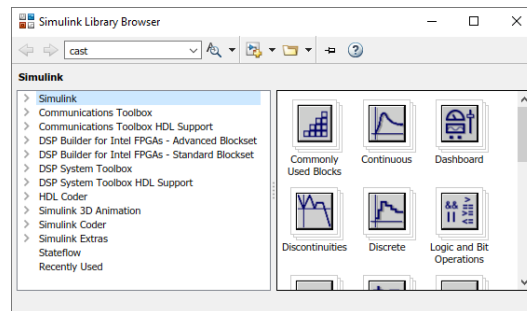
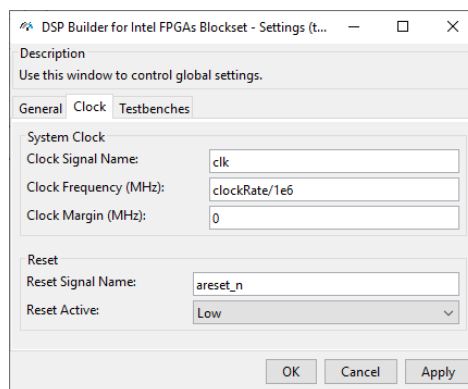

Figure 5: *Simulink Library Browser.*
Figure 6: *Parameter settings for the Control block.*
- You will now build a BPSK transmitter model, which can be used to generate a hardware description that can be synthesized and uploaded to an FPGA. Start by opening the library browser, shown in Fig. 5, (**View** → **Library Browser**) and navigate to **DSP Builder for Intel FPGAs - Advanced Blockset/Design Configurations**. Place a *Control* block in your design by dragging it from the **Library Manager** to the Simulink canvas. Open the settings for the new block by double clicking on it, change **Hardware destination directory** to `./rtl` and tick the **Generate hardware** box. Click the **Clock** tab; note that the clock frequency is given in MHz, change it to `clockRate/1e6`. You will use one of the push buttons on the DE10 development board as a reset, and these are driven low when pressed [1], thus you need to change the **Reset Active** option to Low and rename the reset signal to `areset_n` for clarity. Confirm that the settings match Fig. 6 and click **OK**.